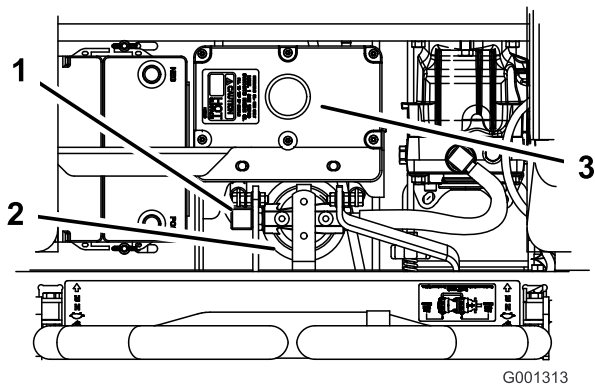

Figure 70
- Remove the righthand hydraulic line that comes into the adapter (Figure 70).
- Install the righthand hydraulic line to the adapter (Figure 70).